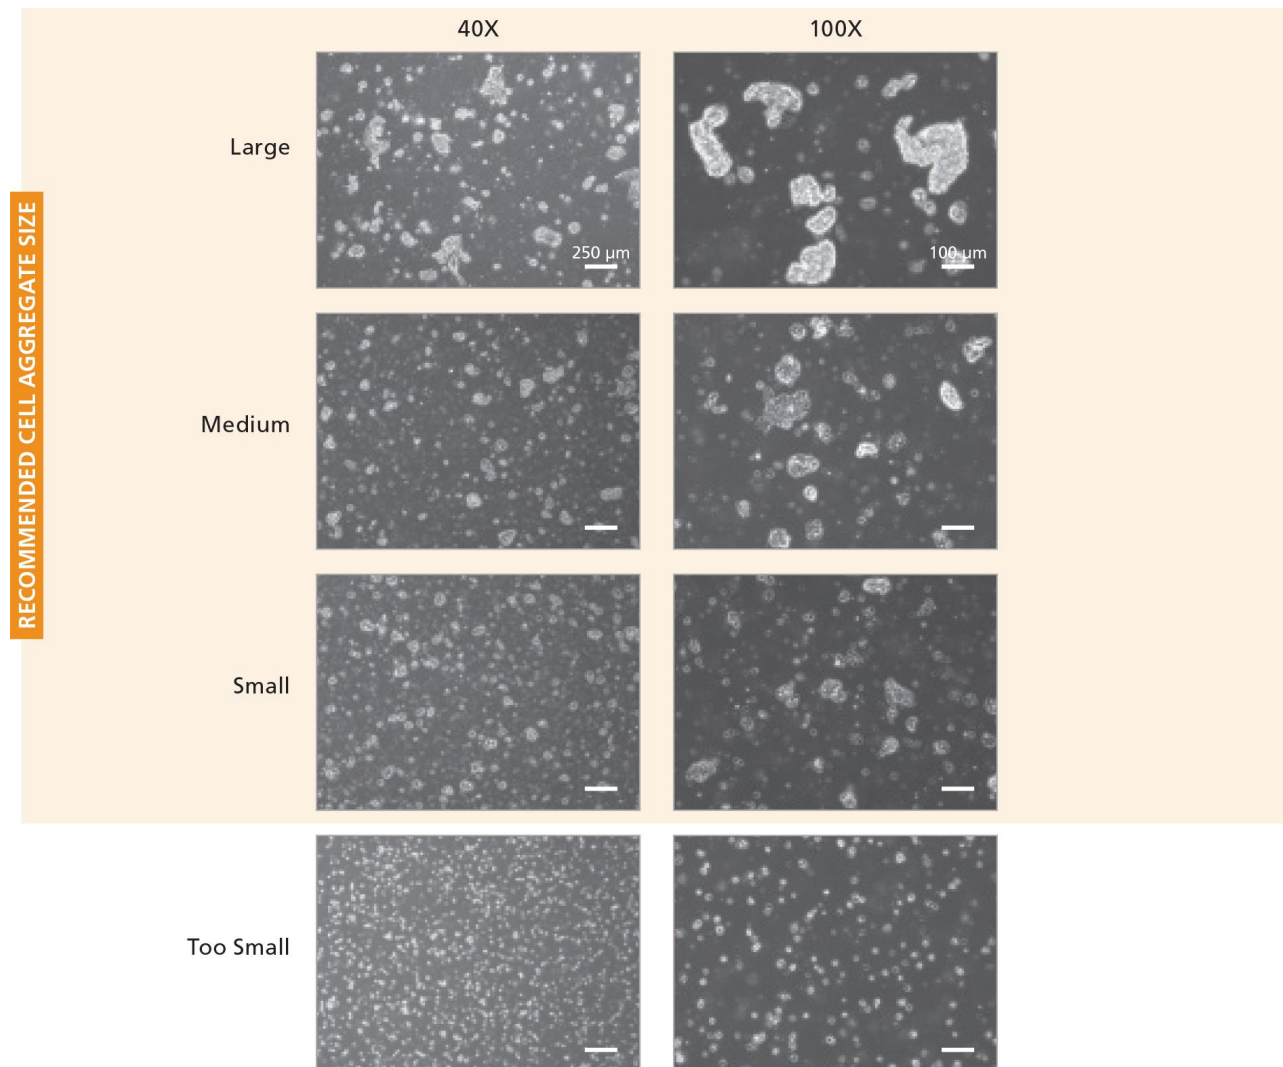

Figure 5. Acceptable Size Range for Cell Aggregates at the Time of Plating
*Number can be adjusted to obtain desired cell aggregate size (section 6.3). Refer to Figure 5 for examples of appropriate cell aggregate sizes and adjust procedure as necessary to achieve desired results.
*For representative images, see Figure 5.
At the time of plating, the desired cell aggregate size can be obtained by adjusting the number of times the cell aggregate suspension is pipetted up and down (Table 3). Refer to Figure 5 for a recommended range of cell aggregate sizes. Do not generate single cells.